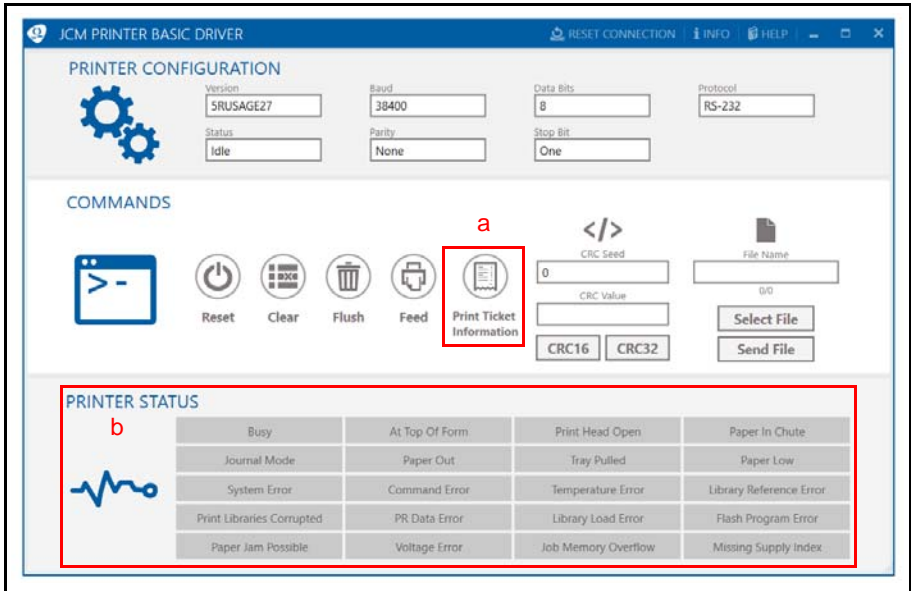

Figure 11 JCM Printer Basic Driver Printer Status Section
The JCM Printer Basic Driver Printer Status Section is displayed (refer to Figure 11 on page 12).
7. Print Ticket Information (Figure 11 a).
8. Check for an Active condition in the Printer Status section (Figure 11 b). An Active condition for a Sensor or Printer Error (e.g., Paper Low or Paper Out) will be displayed as a **RED** highlighted box (not shown). When the Active condition is cleared, the **RED** highlight disappears from the Printer Status display.